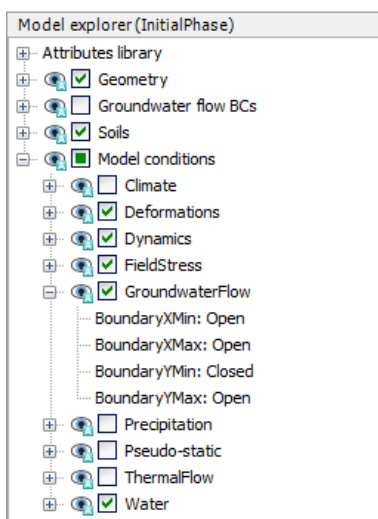

Figure 9.5 The groundwater flow boundary conditions for the initial phase
- In the *Model conditions* expand the *GroundwaterFlow* subtree. The default boundary conditions (Figure 9.5) are relevant for the initial phase. Check that only the bottom boundary is closed.